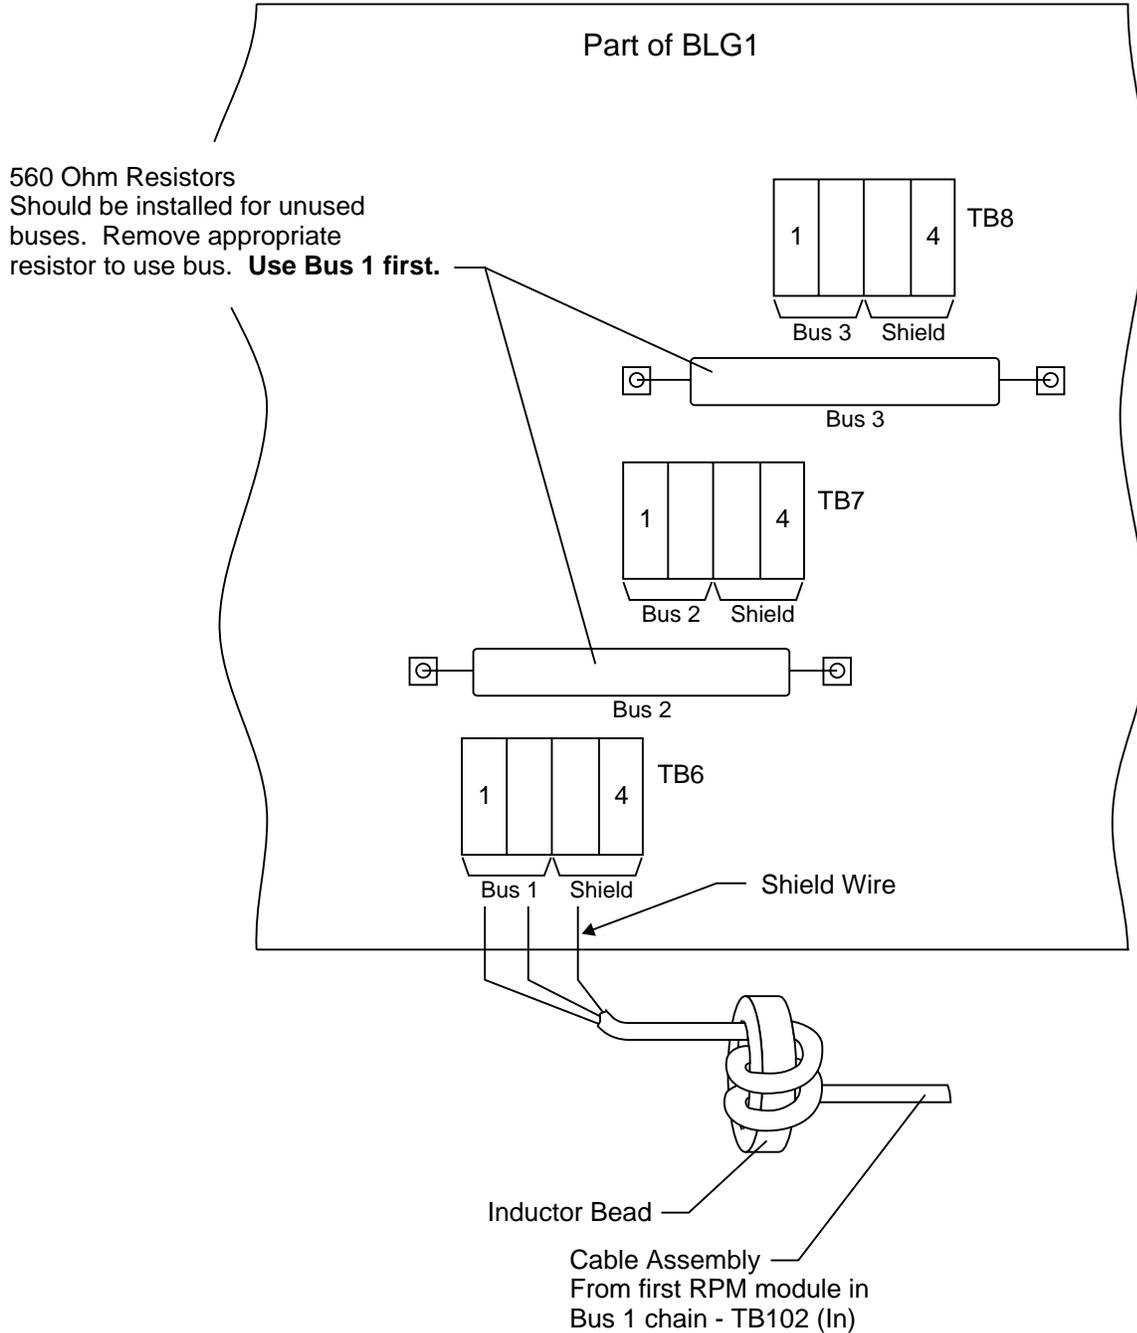

Figure 3-10: Connecting Remote Peripheral Interface Bus Wiring to BLG1
4. Wrap each bus wire twice through one of the supplied inductor beads. Place the bead as close to the controller as possible. Connect the bus wiring to the appropriate terminations (TB6, TB7, TB8) on the BLG1 board. Refer to Figure 3-10.